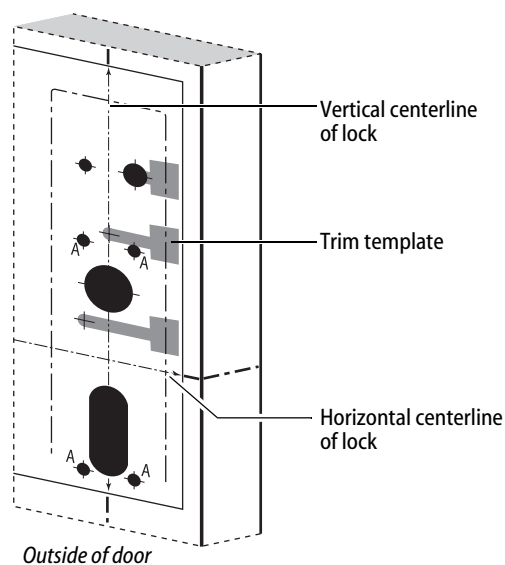

Figure 8 Positioning the trim template, Q08 LHRB shown
- Align the horizontal and vertical centerlines marked on the template with the centerlines marked on the **OUTSIDE** of the door (from step 1). See Figure 8.